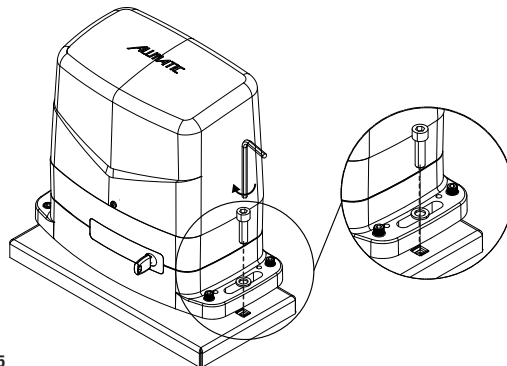
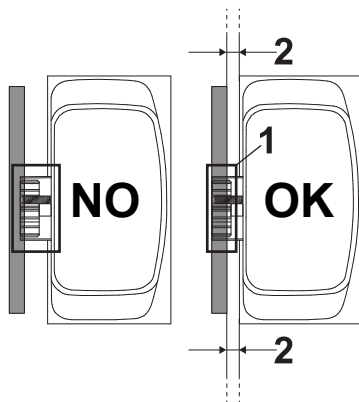

Fig. 5
Fig. 8
To fix the motor to the counterplate, insert and screw the two Allen screws into the appropriate housing (Fig. 5). Position the motor in parallel with the gate and with the gear under the rack as shown in Fig. 8.
- 1 **WARNING!** Position the motor with the pinion under the rack as shown in figure 8.